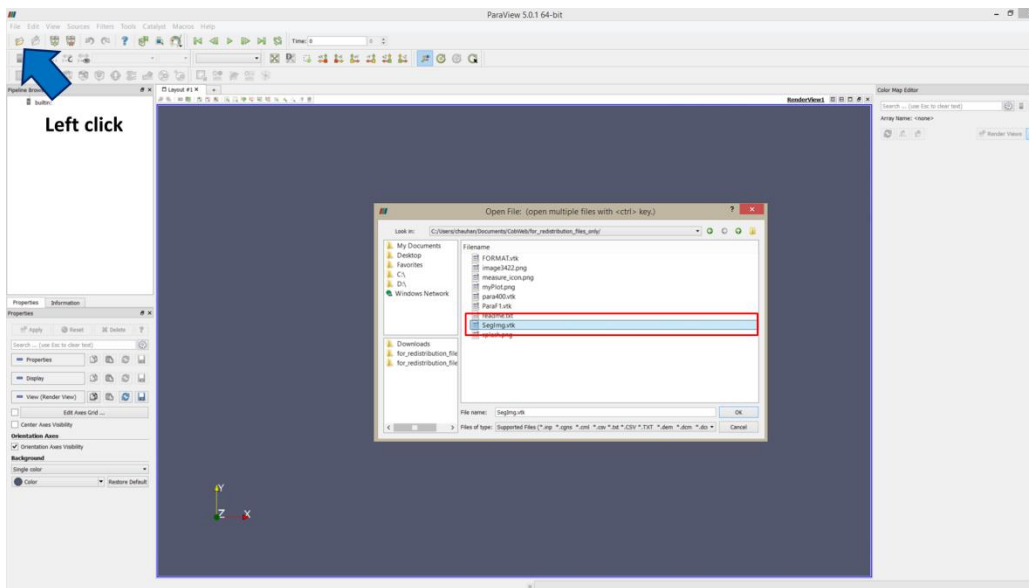

Figure 49: Loading VKT file in ParaView
- Figure 49 displays steps to load the .vkt file into ParaView. This is done by clicking on the folder button or using the file menu to import the file.